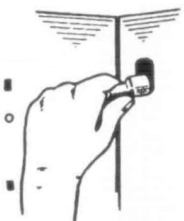
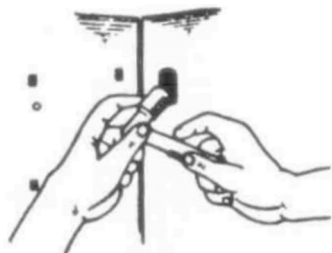

Figure 3
Figure 4
4. Install tube extension on to the end of factory installed fill tube (see Figure 3). Top and bottom mount freezers use straight tube extension. Slide the extension over the inlet tube. You will align the tube with the icemaker fill tray later. On side by side models, slip the short of the angled tube over the inlet tube (see Figure 4). The long end of the tube will go into the icemaker fill tray.